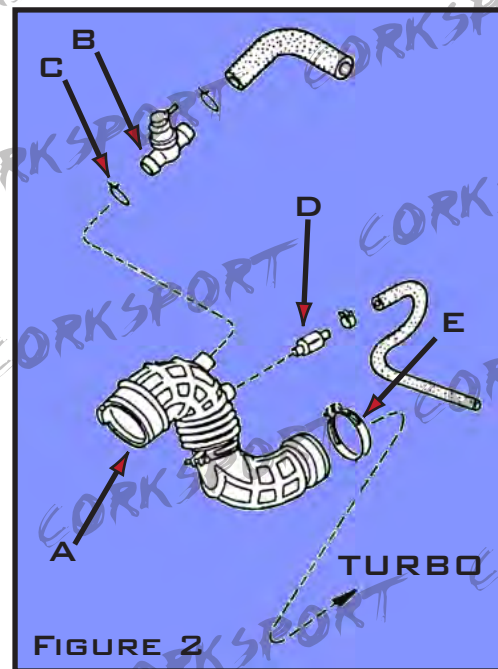

FIGURE 2
THE FACTORY TURBO INLET HOSE (FIGURE 2, ITEM A) HAS TWO CONNECTIONS INTO IT ON THE S4 ('86-'88) AND THREE CONNECTIONS INTO IT ON THE S5 ('89-92).
A. S4/S5: DISCONNECT RECIRCULATION VALVE (FIG 2, B) FROM TURBO INLET HOSE BY UNCLAMPING HOSE CLAMP (FIG 2, C) WITH THE NEEDLENOSE PLIERS. PULL THE RECIRCULATION VALVE OUT OF THE TURBO INLET HOSE ONCE THE CLAMP IS LOOSE.
B. S4/S5: DISCONNECT THE ONE WAY CHECK VALVE (FIG 2, D) FROM THE TURBO INLET HOSE BY PULLING IT OUT OF THE HOSE. IT WILL BE TIGHT AS IT IS BARBED, PULL HARD, BUT WATCH WHERE YOU'RE HANDS ARE GOING TO GO WHEN IT LETS GO!! THE PLIERS MAY COME IN HANDY.
D. BACK OFF HOSE CLAMP (FIG 2, E) HOLDING TURBO INLET HOSE TO TURBOCHARGER COMPRESSOR HOUSING USING 10MM SOCKET OR PHILLIPS SCREWDRIVER. EXTRACT TURBO INLET HOSE FROM ENGINE COMPARTMENT. **Now**